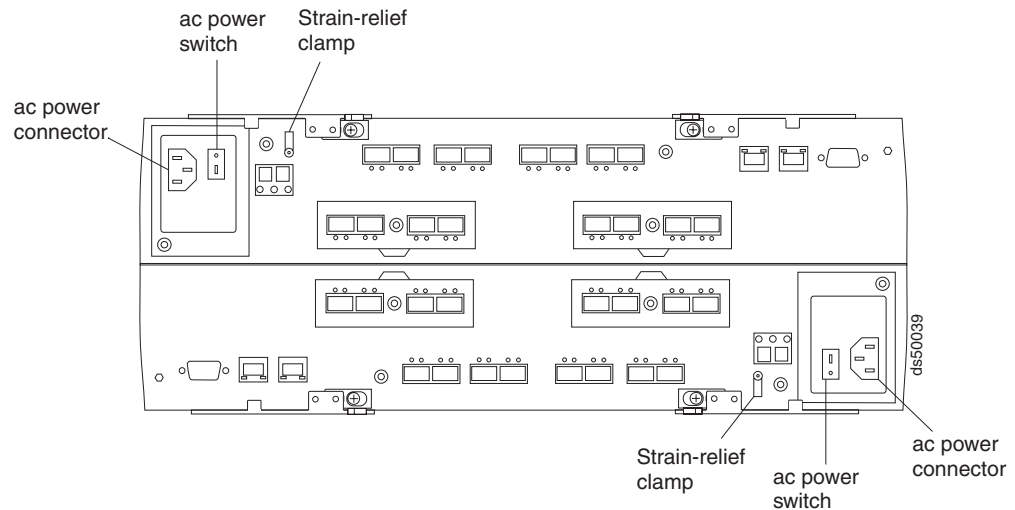

Figure 101. AC power switch and ac power connector
2. If you have not already done so, turn off all power switches on each storage subsystem and storage expansion enclosure in the cabinet. Figure 101 shows the locations of the power switches and connectors on the storage subsystem.